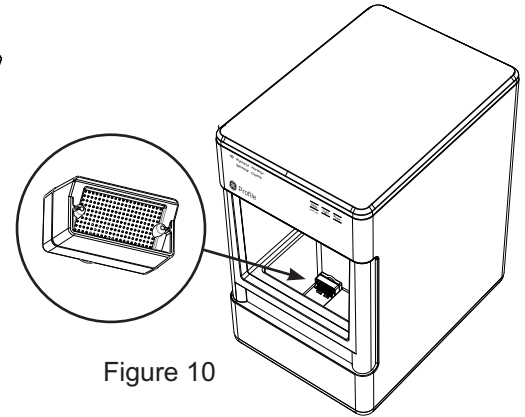

Figure 10
- Uninstall all accessory filters and replace mesh screen that came with the unit. (Figure 10)